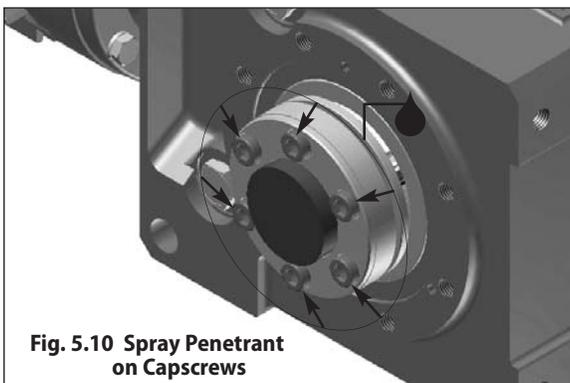

Fig. 5.10 Spray Penetrant on Capscrews
**Step 3** – Spray a liquid penetrant onto each of the Taper-Grip® Bushing capscrews. Allow time for the penetrant to settle into the threads of the capscrews. (see Fig 5.10).